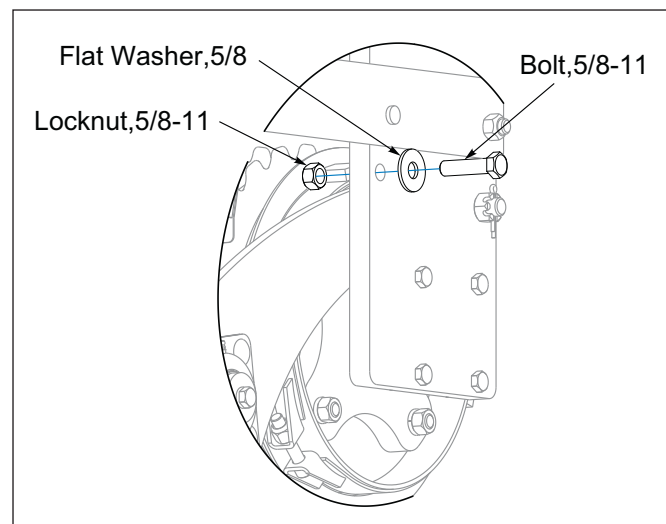

Figure 2-2: Shipping Bolt
5. On the right side of the Seeder Frame, in a similar position as the Parking Pin, remove the 5/8-11 Shipping Bolt that also locks the Rear Roller down. **See Figure 2-2.**